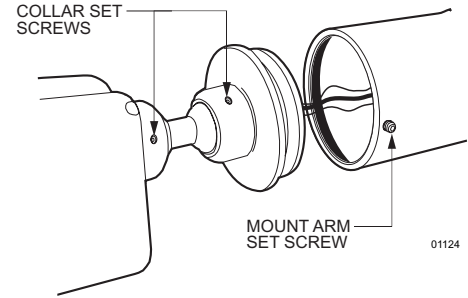

Figure 4. PCM5000 Installation
a. The PCM5000 camera mount assembly can be installed on the top or bottom of the MR5000M mount arm. To install the camera assembly onto the MR5000 Series mount, refer to Figure 4 and do the following: